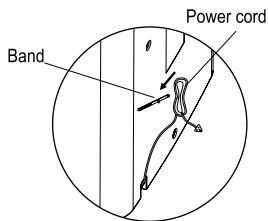

Fig. 8.
- Wrap the cord and bundle it with the band (see Fig.8).